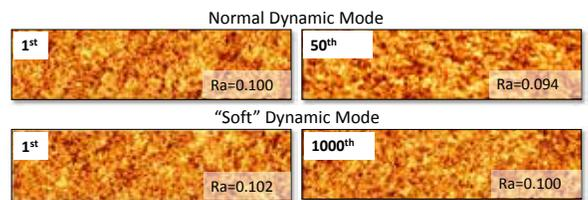

Figure 4. Repeatability test using conventional (upper) and low amplitude soft (lower) dynamic mode on glass substrate.
Conventionally dynamic mode imaging is performed with large amplitude oscillation ($>20\text{ nm}$). The larger amplitude oscillation is enabled by applying more energy to the cantilever which facilitates the tip ability to “contact” the sample surface. In addition, the AFM systems ability to perform dynamic mode imaging with low oscillation amplitude was limited due to the bandwidth of the Z servo of the AFM system and system noise level. If a system can perform dynamic mode with low amplitude, it should be able to apply minimum energy to the cantilever, just enough to penetrate the liquid layer, then the tip life may be preserved longer and minimize its effect on the measurement repeatability. Park NX series were designed for low amplitude NC mode imaging, hence it is made possible to perform low amplitude low energy cantilever oscillation with maximum signal to noise ratio. We call this type of dynamic mode (with low oscillation amplitude) soft dynamic (SD) mode. Figure 4 shows a comparison between the tip life in normal dynamic mode (high amplitude) vs. SD mode (low amplitude) by scanning a glass substrate sample with roughness value of about 1\AA . In this figure, the 1st and 50th scanned images by normal dynamic mode are compared. The $1\mu\text{m} \times 0.25\mu\text{m}$ images (512×128 pixels) are collected with scan rate of 1Hz. The roughness value (Ra) is decreased by 6% over 50 images and image resolution significantly degrades due to loss